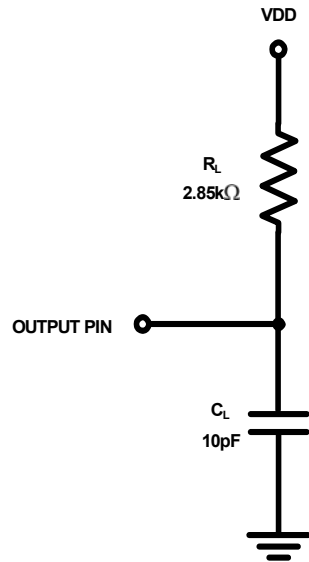

FIGURE 4. EQUIVALENT LOAD CIRCUIT
14. During characterization, tDISABLE is measured from the release point with a 10pF load (see Figure 4).